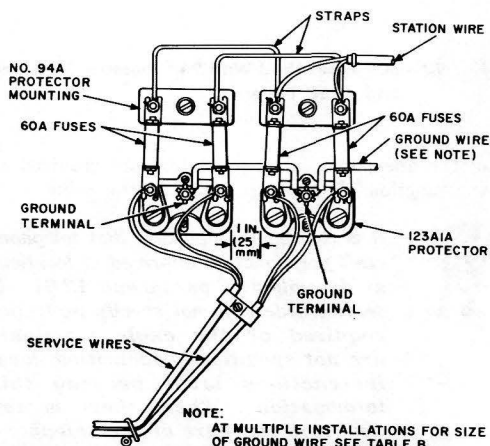

Fig. 92—Fuseless Protectors Used for Bridging Service Wires on Battery Feed Circuits
11.11 Two battery feeder pairs terminated on fuseless station protectors equipped with 60A fuses and bridged to one station wire are shown in Fig. 92.